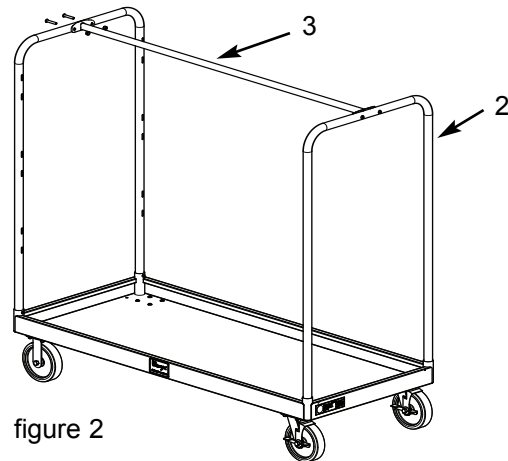

figure 2
- Attach other end of the hanger bar (#2) (figure 2) as defined in step 6.